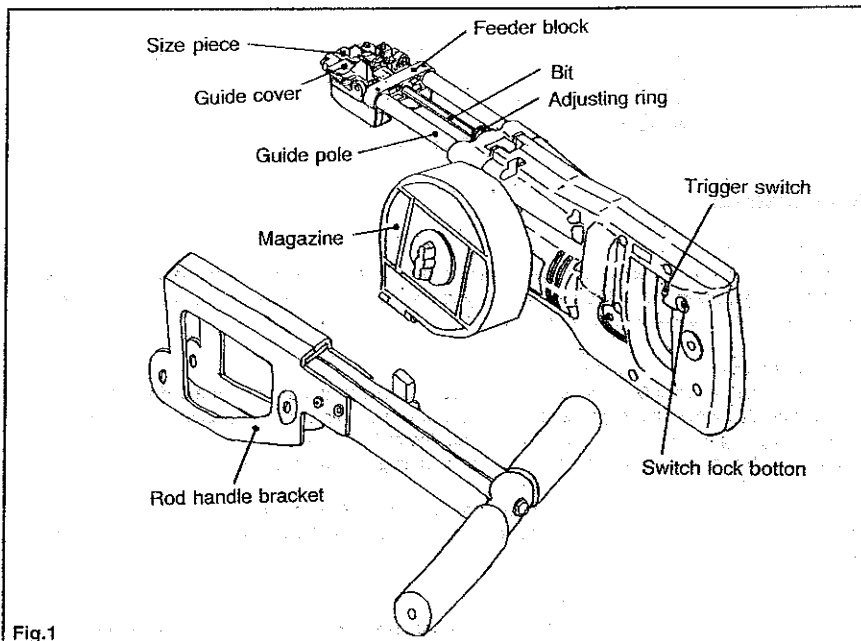

Fig.1
(2) Trigger switch (Figs. 1 and 2)
(3) Checking the bit turning direction (direction selector) (Figs. 1 and 3)
(4) Checking and replacing the bit (Figs. 1 and 4)